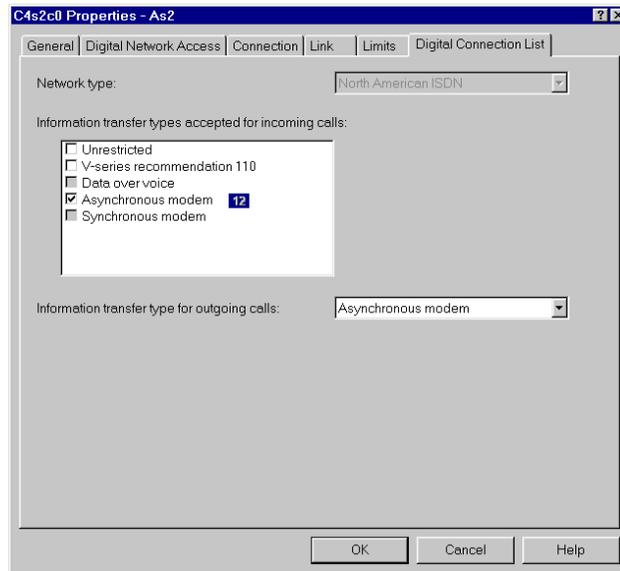

Figure 108. Verifying the transfer type
7. Click the **Digital Connection List** tab (Figure 108).